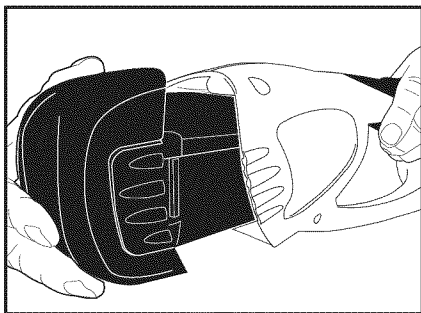

Figure 5
1. Align the rib on the battery pack with the corresponding slot in the end of the power handle. (see figure 5)